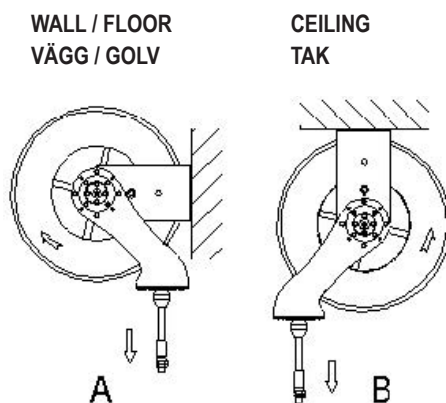

FIG 2.
IMPORTANT! The hose reel has to be wall or ceiling mounted at a minimum height from the floor of 2,5m. Mount the hose reel complete with hose on a stiff and consistent wall using 4 screws of 10 mm diameter. For smooth operation and longer life, position the reel and its arms as in figure 2. To move the hose guide arms, remove the screws (18), place the arms in the correct position and thread the screws.